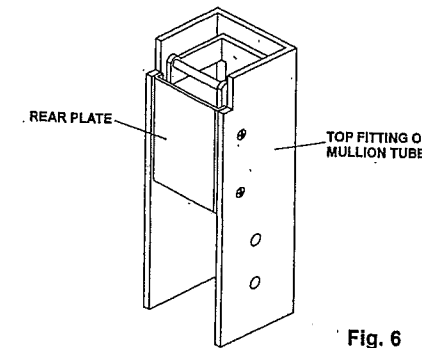
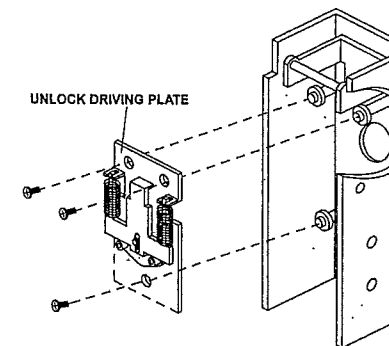

Fig. 6
Fig. 7
1. Remove the Rear Plate by removing the 4 attachment screws (see Fig. 6). Now remove the Unlock Driving Plate by removing its 3 attachment screws. (See Fig. 7)